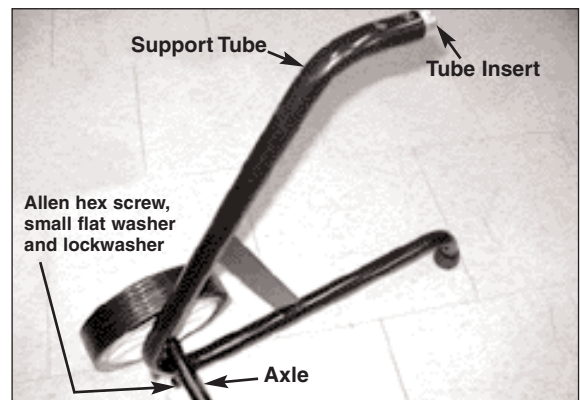

Fig. 4
3. Position the axle assembly on the inside of the support tube as shown in Fig. 4, aligning the hole in the axle with the hole in the support. Place a lockwasher and small flat washer on the Allen hex screw and guide them up through the hole in support tube and into the hole in the axle. The flat washer should be next to the axle.